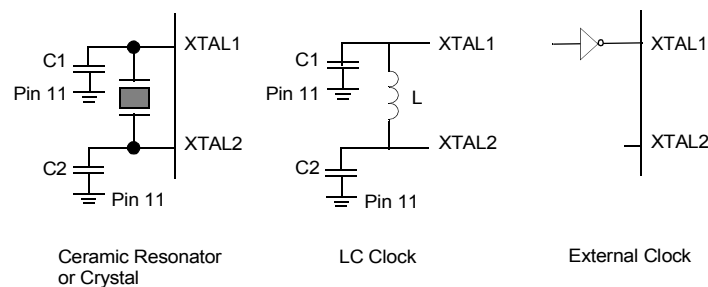

Figure 17. Oscillator Configuration
The Z86E61/E63 on-chip oscillator has a high gain, parallel resonant amplifier for connection to a crystal, LC, ceramic resonator, or any suitable external clock source (XTAL1 = Input, XTAL2 = Output). The crystal should be AT cut, 1 MHz to 16 MHz max; series resistance (RS) is less than or equal to 100 Ohms. The crystal should be connected across XTAL1 and XTAL2 using the recommended capacitors ($10 \text{ pF} < C_L < 100 \text{ pF}$) from each pin to ground (Figure 17).